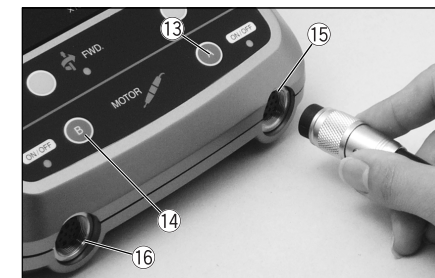

Fig. 3
Insert the motor cord plug into the Motor Plug Connector ⑮ and align the pin on the plug with the groove on the connector and tighten the motor cord plug nut. (Fig. 3)